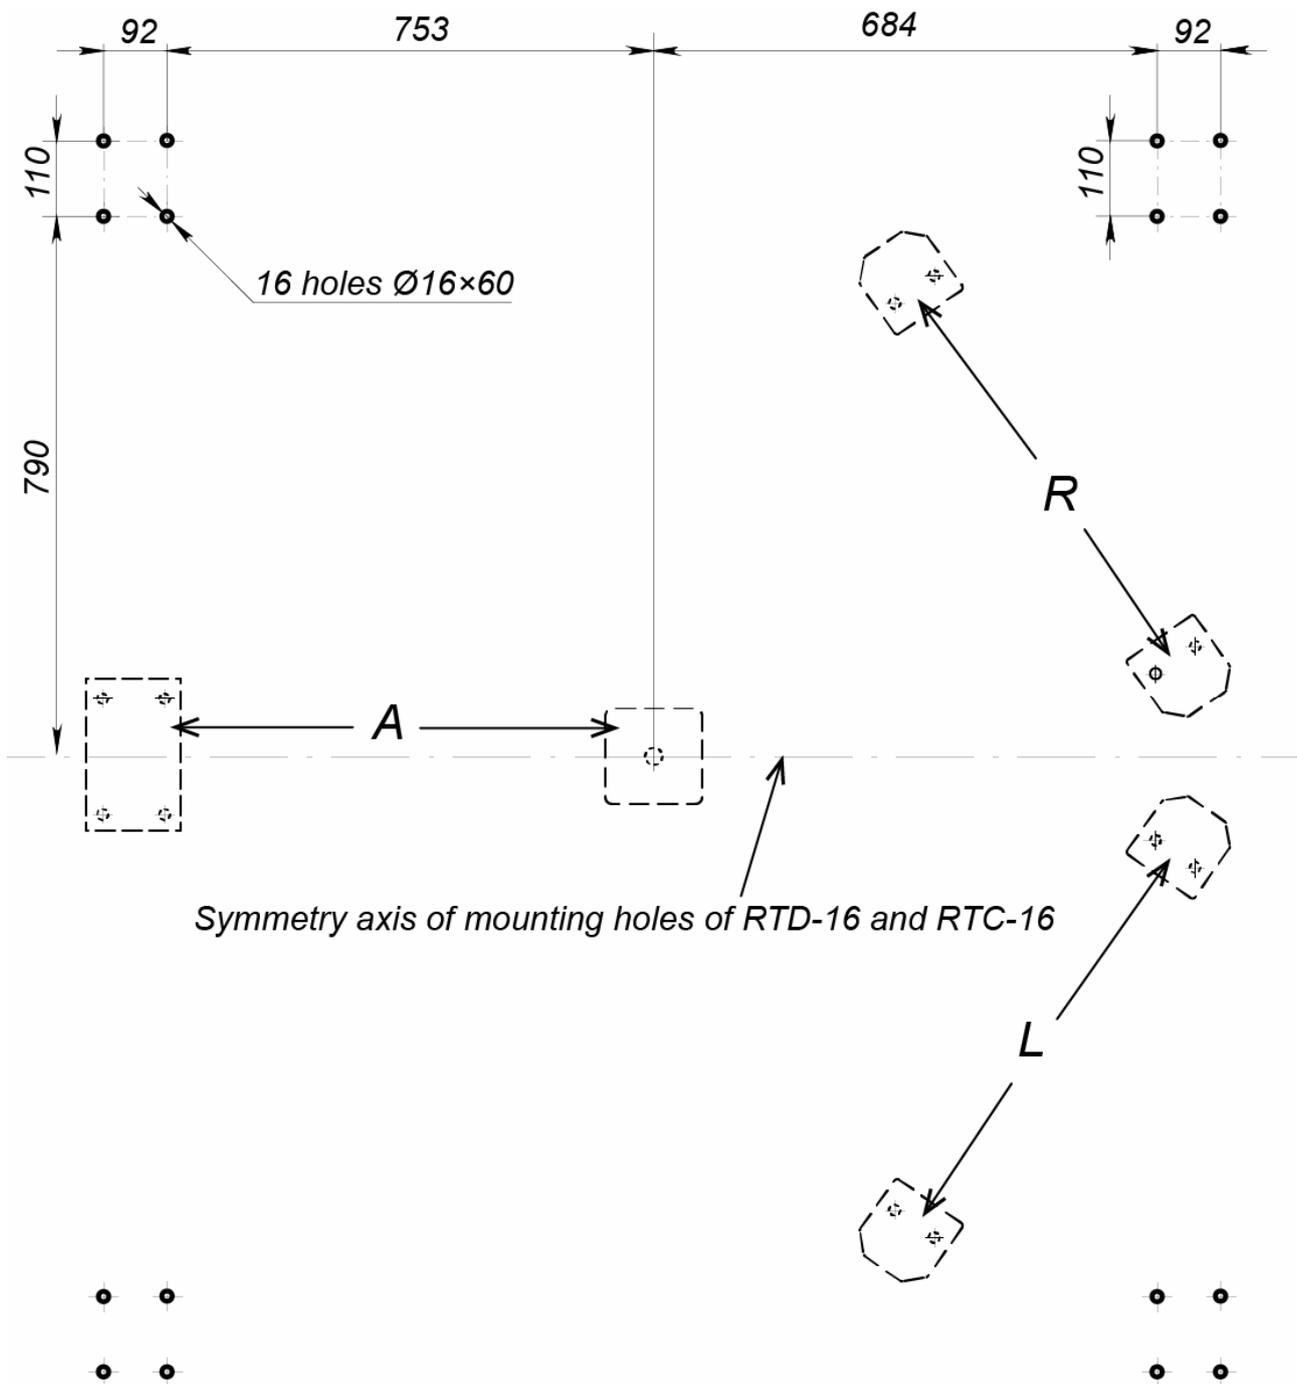

Figure 3. The layout of the holes for the installation of the RTC-16 canopy
2. Mark out the mounting holes for installation of the posts (3) according to Fig. 3. Carry out the marking together with that for turnstile mounting holes. Symmetry axis of turnstile and canopy mounting holes geometrically coincide (3).